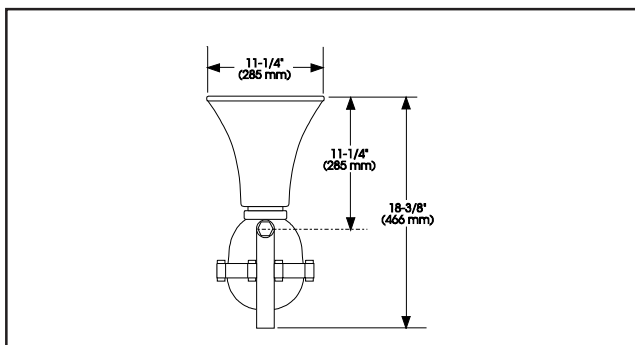

Figure 1. Dimensions
1. Mount Adaptatone to any solid surface using its mounting bracket and (3) bolts (not supplied) (Figure 1).